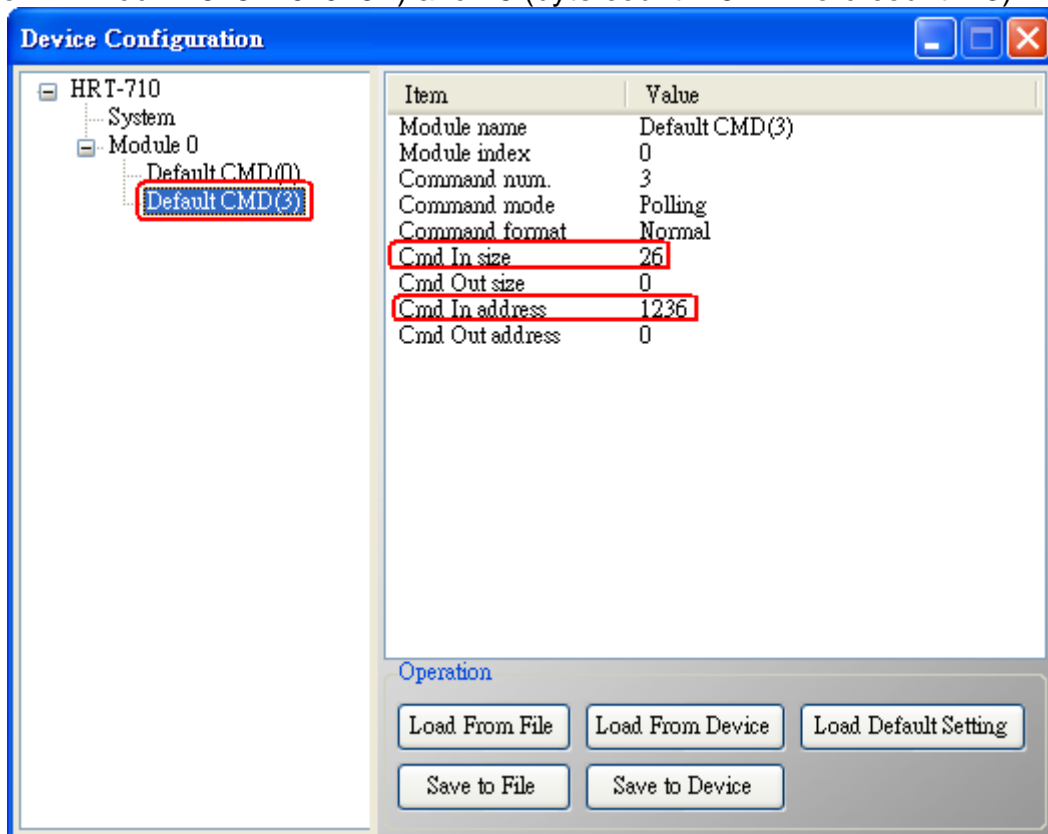

Figure 6-1 “Default CMD(3)” of HART device in HRT-710
(1) When adding a new HART device to HRT-710, the “Default CMD(3)” will be added automatically. The Modbus start address and length of the “Default CMD(3)” will show in the “**Cmd In address**” and “**Cmd In size**” field like Figure 6-1. In the example they are 1236 (For MB Addr = 618 = 0x026A) and 26 (byte count=26 => word count=13).